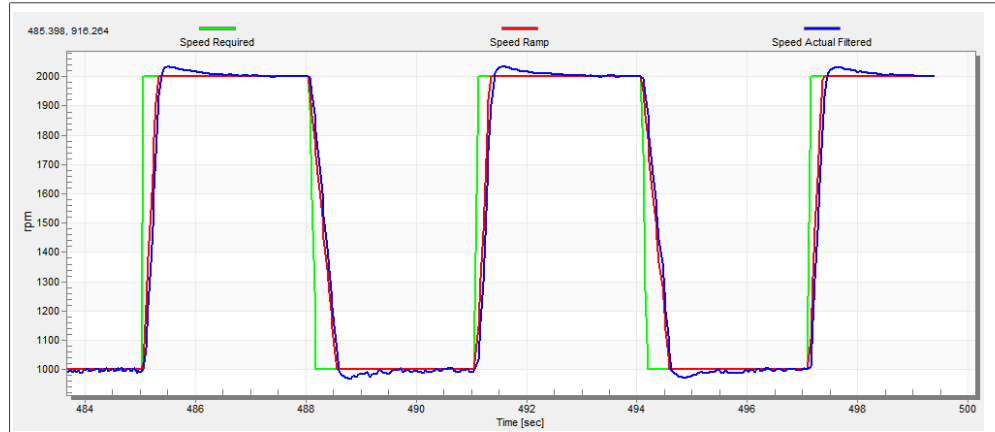

Figure 28. Speed controller response—speed loop response with a small overshoot
- The speed loop response has a small overshoot and the “Speed Actual Filtered” settling time is sufficient. Such response can be considered optimal (see Figure 28).
| Fig. 13. | Voltage FOC control mode | 32 | Fig. 28. | Speed controller response—speed loop response with a small overshoot | 49 |